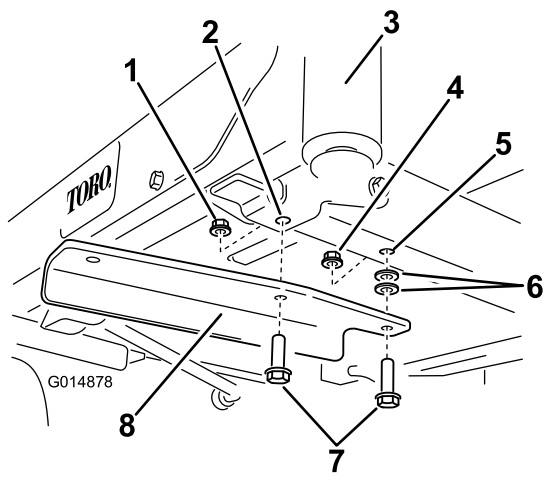

Figure 5
3. Secure the bracket to the frame using two bolts (3/8 x 1-1/4 inches), two washers and two lock nuts (3/8 inch) (Figure 5). One locknut is from loose parts and the other is reused from earlier removal.